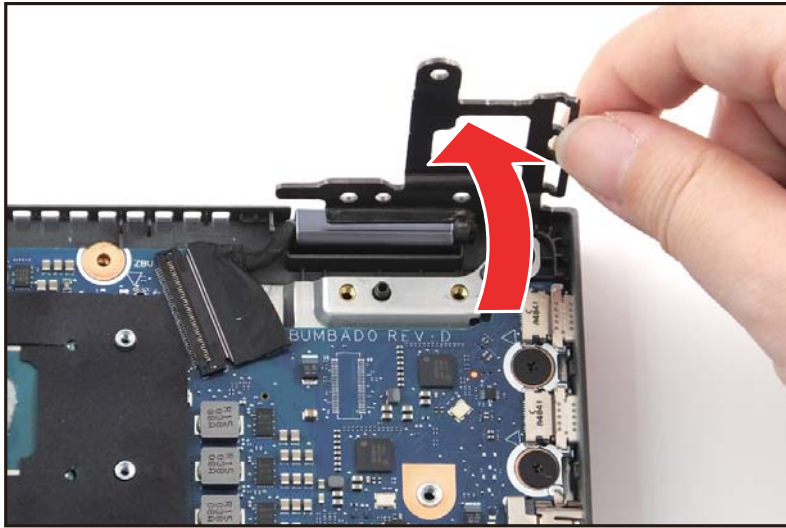

Figure 1-30. Mainboard Removal
3. Close the top assembly and lift the right side of LCD hinge until it is fully extended (Figure 1-30).